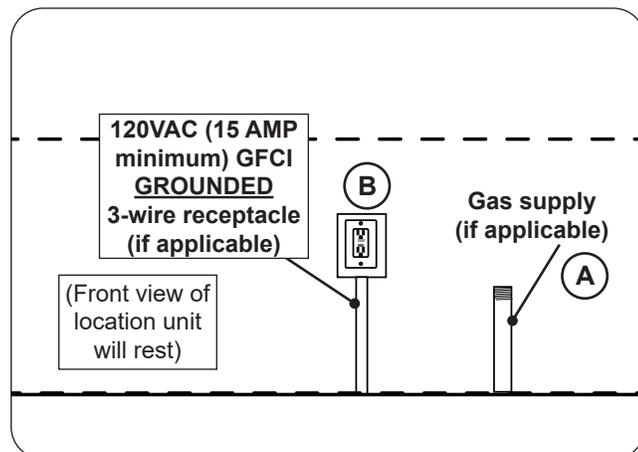

Fig. 27-1 Route gas and electrical (as applicable)
1. Ensure the gas supply is properly routed into the area that the unit will rest over (see Fig. 27-1, A).
1. Wire the receptacle into the area that the unit will rest over (see Fig 27-1, B).